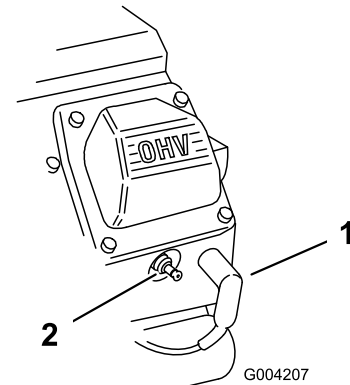

Figure 46
- Pull the wires off the spark plugs (Figure 46).
3. Push the wires onto the spark plugs (Figure 46).